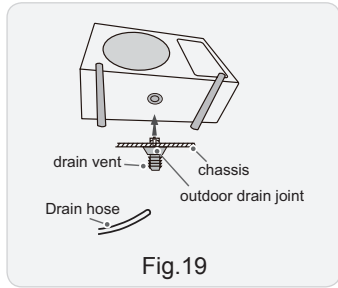

Fig.19
(1) Connect the outdoor drain joint into the hole on the chassis.
(2) Connect the drain hose into the drain vent.(As show in Fig.19)